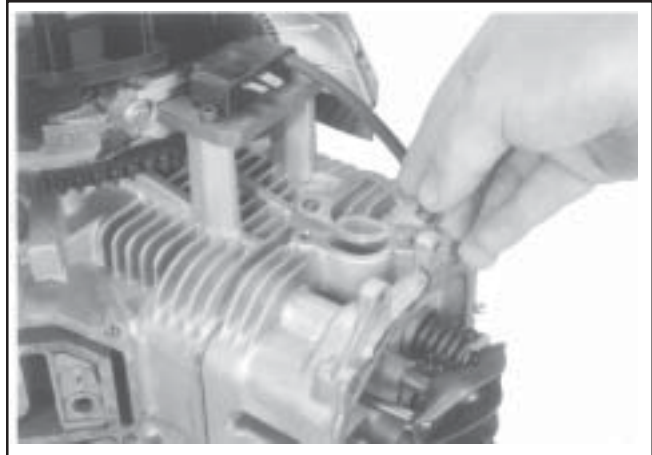

Figure 11-47. Installing Intake Manifold Gaskets.
1. Install the intake manifold and new gaskets or O-Rings (plastic manifold), with wiring harness attached, to the cylinder heads. Slide any wiring harness clips onto the appropriate bolts before installing. Make sure the gaskets are in the proper orientation. See Figures 11-47, and 11-48. Using the sequence shown in Figure 11-49, torque the four screws in two stages, first to **7.4 N·m (66 in. lb.)**, then to **9.9 N·m (88 in. lb.)**.